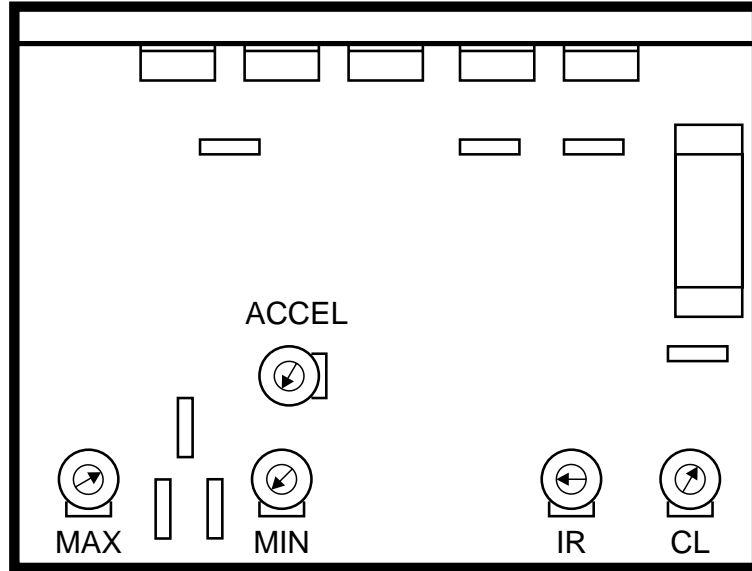

Figure 2 - Controller Settings
- 4) The controller must be setup **before** power is applied. The potentiometers should be set to the positions shown in Figure 2 and should NOT be otherwise adjusted unless careful consideration has been taken.